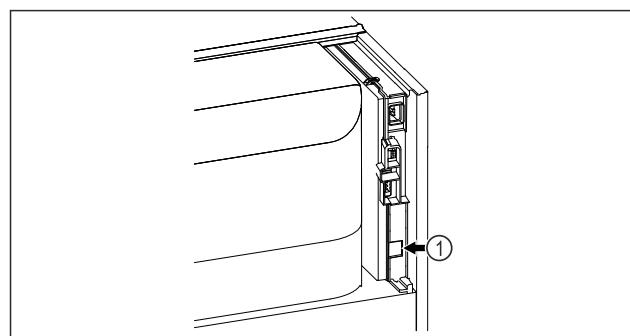

Fig. 143
- SmartModule Fig. 143 (1) is in use.